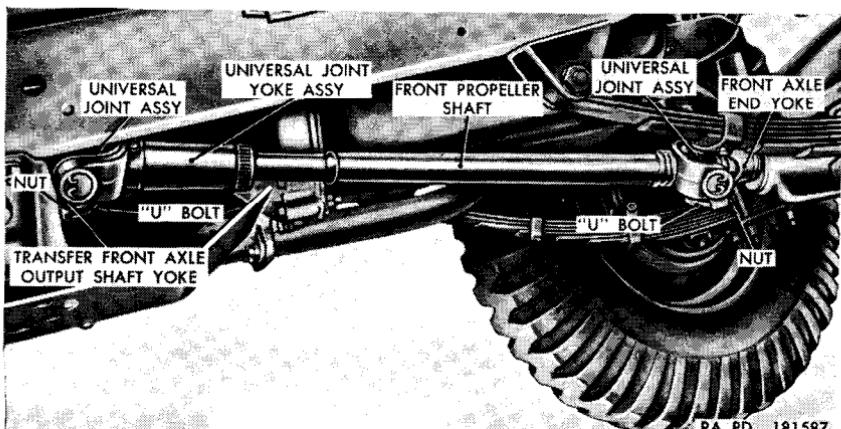
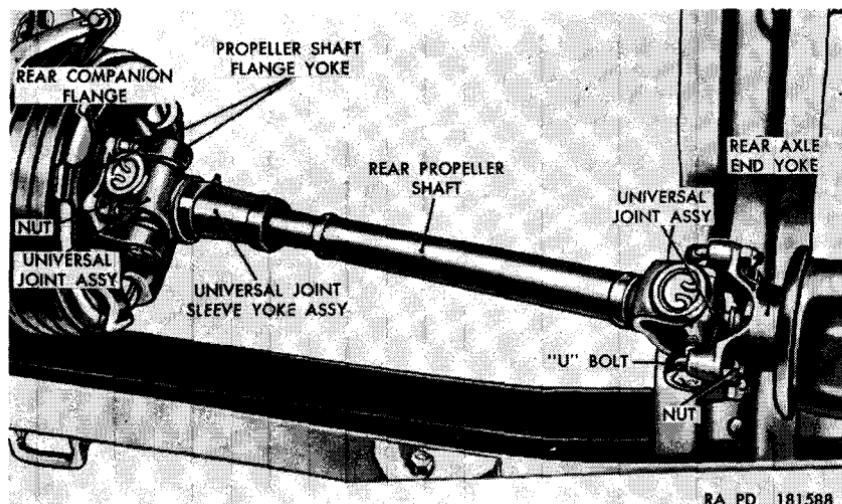

Figure 91. Front propeller shaft with universal joint assemblies—installed.
Figure 92. Rear propeller shaft with universal joint assemblies—installed.
a. *Description.* The front propeller shaft with universal joint assemblies (fig. 91) transmits power from the transfer to the front axle. The rear propeller shaft with universal joint assemblies (fig. 92) transmits power from the transfer to the rear axle. Each assembly includes a propeller shaft, a universal joint sleeve assembly, and two universal joint assemblies. Corresponding parts of both the front and rear assemblies are the same except for the length of the shaft and the front universal joint assembly of the rear propeller shaft. This universal joint assembly includes the propeller shaft flange yoke, and is modified accordingly. The four universal joint assemblies are roller bearing types.
a. Remove Front Propeller Shaft with Universal Joint Assemblies (fig. 91).
- (1) Remove the four nuts from the two U-bolts holding the universal joint assembly to the transfer front axle output shaft yoke. Remove the two U-bolts and separate the joint from the yoke.
- (2) Remove the four nuts from the two **U**-bolts holding the universal joint assembly to the front axle end yoke. Remove the two **U**-bolts and remove the front propeller shaft with universal joint assemblies from the vehicle.
b. Remove Rear Propeller Shaft with Universal Joint Assemblies (fig. 92).
- (1) Remove the four nuts from the two **U**-bolts holding the universal joint to the rear axle end yoke. Remove the two **U**-bolts and separate the joint from the yoke.
- (2) Remove the four nuts and lockwashers holding the propeller shaft flange yoke to the rear companion flange and remove the rear propeller shaft with universal joint assemblies from the vehicle.
c. Install Front Propeller Shaft with Universal Joint Assemblies (fig. 91).
- (1) Position the universal joint assembly, on the end of the front propeller shaft, on the front axle end yoke. Install the two **U**-bolts over the ends of the universal joint and through the holes in the yoke, and secure in place with four $\frac{5}{16}$ -inch nuts.
- (2) Position the universal joint assembly, on the end of the universal joint sleeve yoke assembly, on the transfer front axle output shaft yoke. Install the two **U**-bolts over the ends of the universal joint and through the holes in the yoke, and secure in place with four $\frac{5}{16}$ -inch nuts.
d. Install Rear Propeller Shaft with Universal Joint Assemblies (fig. 92).
- (1) Position the propeller shaft flange yoke on the bolts projecting from the rear companion flange and secure in place with four lockwashers and nuts.
- (2) Position the universal joint assembly, on the end of the propeller shaft, on the rear axle end yoke. Install the two U-bolts over the ends of the universal joint and through the holes in the yoke, and secure in place with four $\frac{5}{16}$ -inch nuts.
Note. The operations for removing and installing the universal joint assemblies from the front end of the front propeller shaft, the rear end of the rear propeller shaft, and the universal joint sleeve yoke assembly of the front shaft are exactly the same and will therefore be referred to figure 91 which shows the rear propeller shaft.
- (1) Remove front propeller shaft with universal joint assemblies from the vehicle (par. 209a).
- (2) Remove the universal joint assembly (fig. 91) from the front universal joint sleeve yoke assembly following the procedure given in b (2) above.
- (2) Remove universal joint assembly (fig. 91) from the front propeller shaft following the procedures given in b (2) above.
f. Install Universal Joint Assembly in Front Universal Joint Sleeve Yoke Assembly. Install the universal joint assembly (fig. 91) in the front universal joint sleeve yoke assembly following the procedures given in *e* above.
g. Install Universal Joint Assembly in Rear Propeller Shaft. Install the universal joint assembly in the propeller shaft (L) following the procedures given in *e* above.
- (1) Install the universal joint assembly in the universal joint sleeve yoke (G) following the procedures given in *e* above.
- (2) Install the propeller shaft flange yoke (Y) on the two remaining bearings (B) of the universal joint assembly installed in (1) above. Follow procedures given in *e* above.
a. General. The universal joint sleeve yoke assemblies (figs. 91 and 92) used on the front and rear propeller shafts are practically identical and removal and installation procedures will be referenced to the rear sleeve yoke illustrated in figure 91.
yoke (fig. 91), put the two U-bolts over the bearings and through the holes in the shaft yoke, and install the four $\frac{5}{16}$ -inch nuts.